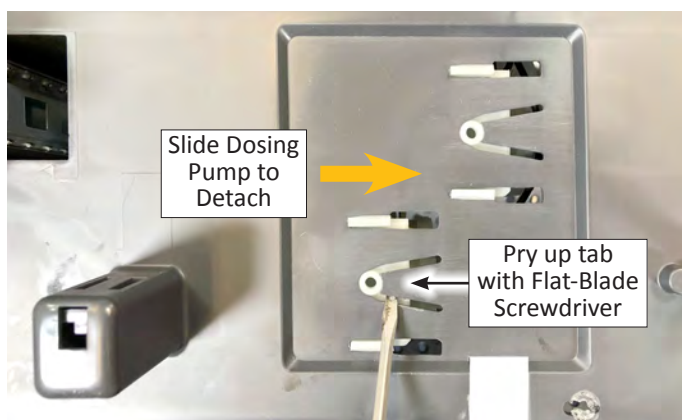

Figure 5
1. To remove the Dosing Pump(s), use a small flat-blade screwdriver to pry up the locking tab and slide the pump to one direction to remove from bracket. See Figure 5.